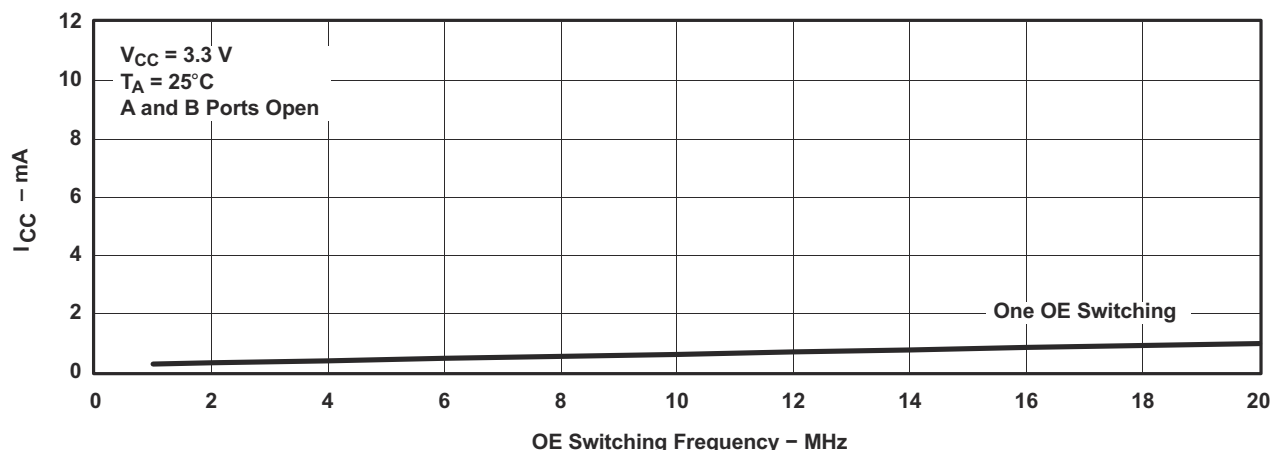

Figure 9-2. Typical I_{CC} vs OE Switching Frequency
(1) V_{IN} and I_{IN} refer to control inputs. V_I , V_O , I_I , and I_O refer to data pins.
(2) All typical values are at $V_{CC} = 3.3 \text{ V}$ (unless otherwise noted), $T_A = 25^\circ\text{C}$.
(3) For I/O ports, the parameter I_{OZ} includes the input leakage current.
(4) This is the increase in supply current for each input that is at the specified TTL voltage level, rather than V_{CC} or GND.
(5) This parameter specifies the dynamic power-supply current associated with the operating frequency of a single control input (see Figure 9-2).
(6) Measured by the voltage drop between the A and B terminals at the indicated current through the switch. ON-state resistance is determined by the lower of the voltages of the two (A or B) terminals.